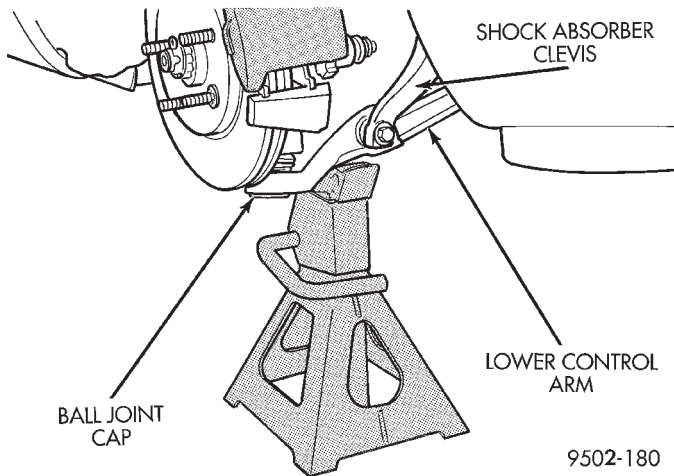

Fig. 60 Supporting Lower Control Arm With Jack Stand
CAUTION: When supporting lower control arm with jack stand, do not position jack stand under the ball joint cap on the lower control arm. Position in area of lower control arm shown in (Fig. 60).
(8) Lower vehicle until jack stand positioned under lower control arm (Fig. 60) is supporting the vehicle. Continue to lower vehicle until the total weight of the vehicle is supported by the jack stand on the side of the vehicle with the tire removed and by the tire on the opposite side of the vehicle.